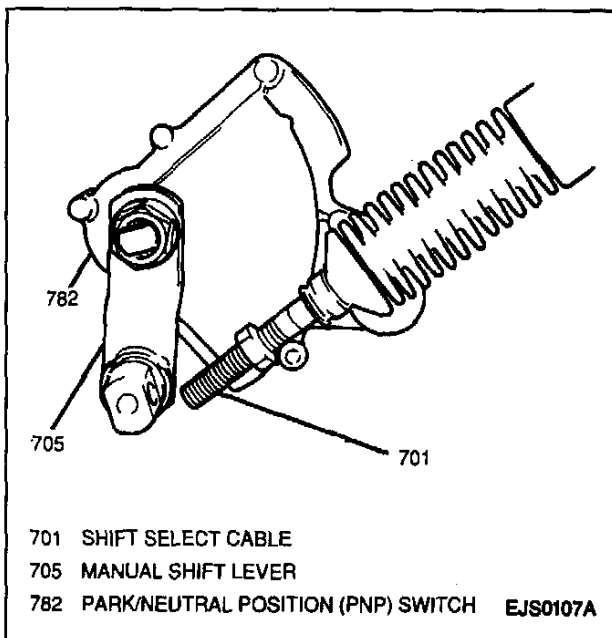

Figure 11—Manual Shift Lever in "L" Position (Typical)
1. Place manual shift lever in "L" (low) position (Figure 11).